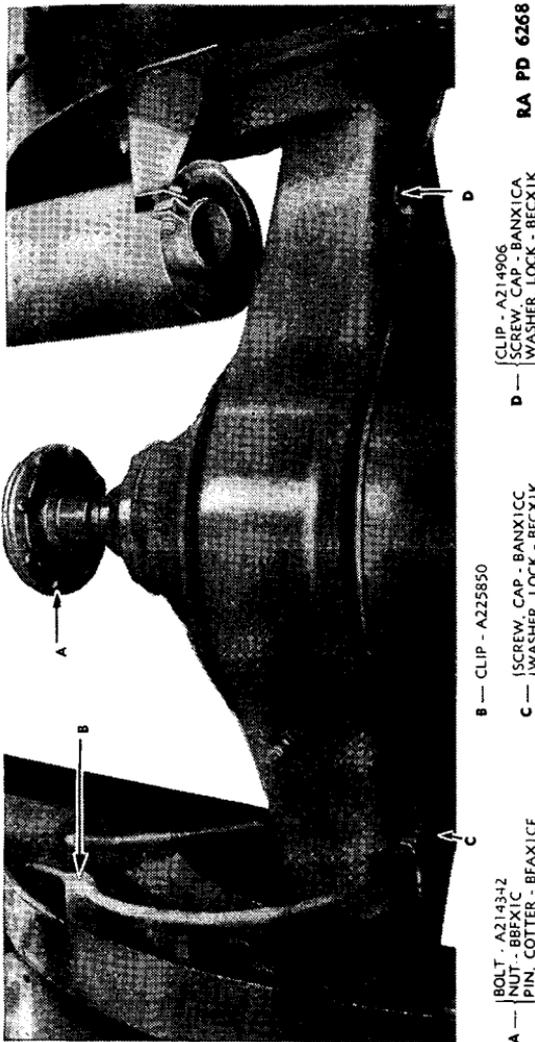

FIGURE 46.—Rear wheel brake lines, installed.
*d. Disconnect brake lines*—9/16-inch, open end wrench. Break hydraulic hoses at wheel cylinders and remove cap screw (BCAX1CC) and lock washer (BECX1K) holding brake line tee (A167679) to differential housing, and cap screw (BCAX1CA) and lock washer (BECX1K) holding brake line clip (A214906) to axle housing (fig. 46).
(1) Disconnect rear propeller shaft— $\frac{9}{16}$ -inch open end wrench,  $\frac{9}{16}$ -inch socket wrench. Remove eight  $\frac{3}{8}$ -inch bolts, nuts, and cotter pins holding universal joint flange to jackshaft companion flange (fig. 46).
(2) Drain lubricant— $\frac{9}{16}$ -inch open end wrench. Remove magnetic drain pipe plug (A214913) from housing and drain lubricant.
(3) Remove floor plate— $\frac{7}{16}$ -inch socket wrench. Take out screw (BCNX2CF) and nut (BBAX1A) securing floor plates (B185254) over differential housing and remove plates.